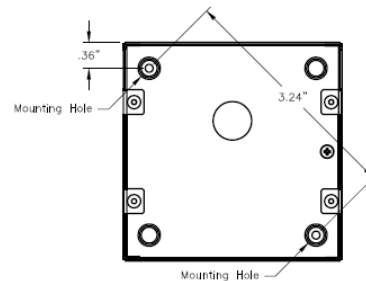

Figure 4. Backbox mounting holes
6. Identify the two (2) mounting holes on the diagonal corners of the backbox as shown in Figure 4; using the two (2) 4 x 6 mm Phillips pan head screws provided with the unit, install the backbox in accordance with local, state and national requirements.